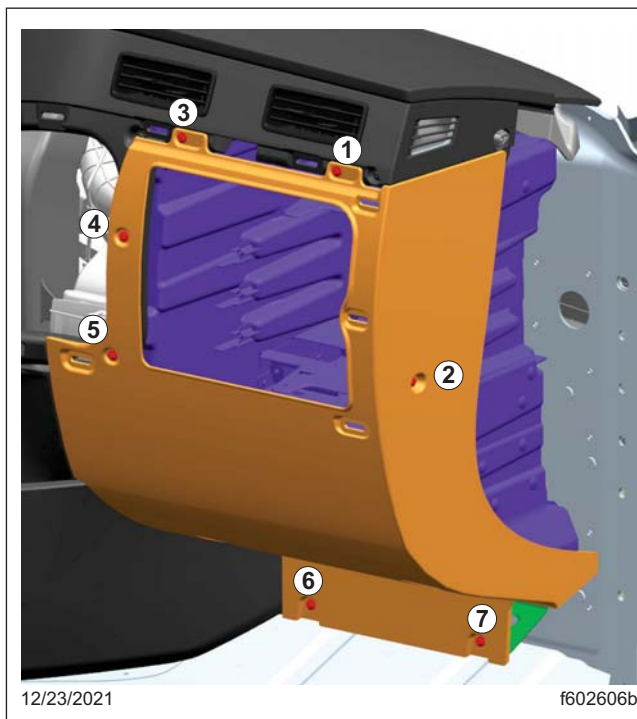

Fig. 4, Passenger Side Lower Dash Cover
6. Remove the seven screws that attach the cover to the dash as shown in Fig. 4, then pull the clips loose and remove the cover.